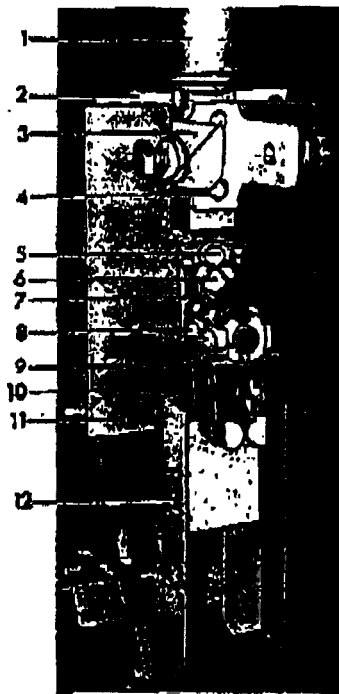
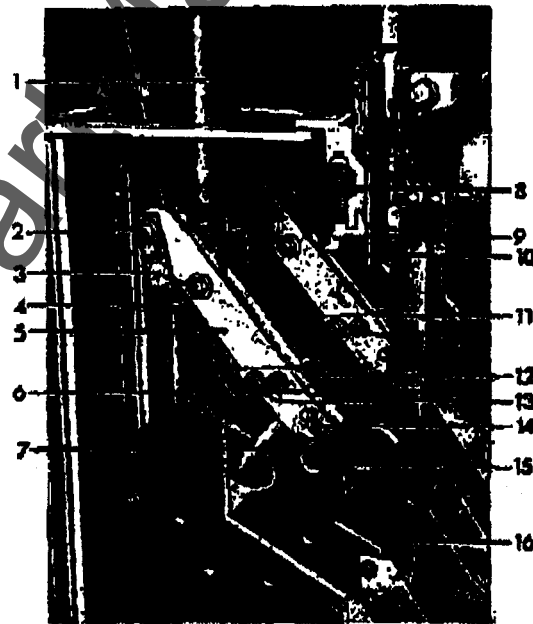

Figure 22. (8039457) Rear Bushing Assembly
Figure 23. (8039456) Contact Assembly
A. Stationary Arcing Contacts (10), Figure 22.
1. Disconnect the contact braids (7) from the contact fingers by removing four bolts and locking plates (8).
3. To disassemble braids from stud plate remove one bolt (5).
4. To disassemble stud plate from contact support, remove two bolts (6).
5. Reassemble in the reverse order, make sure locking plates are properly re-assembled with bolts (8).
B. Movable Arcing Contact (15) Figure 23.
1. Remove the assembly bolts (14) making note of quantity and location of shims and spacers used between contacts and contact arms.
3. Close the breaker slowly to check that the movable arcing contact is approximately centered on the stationary arcing contact and that it does not rub on either side of the throat barrier (11).
- D. Movable Primary Contacts (12), Figure 23.